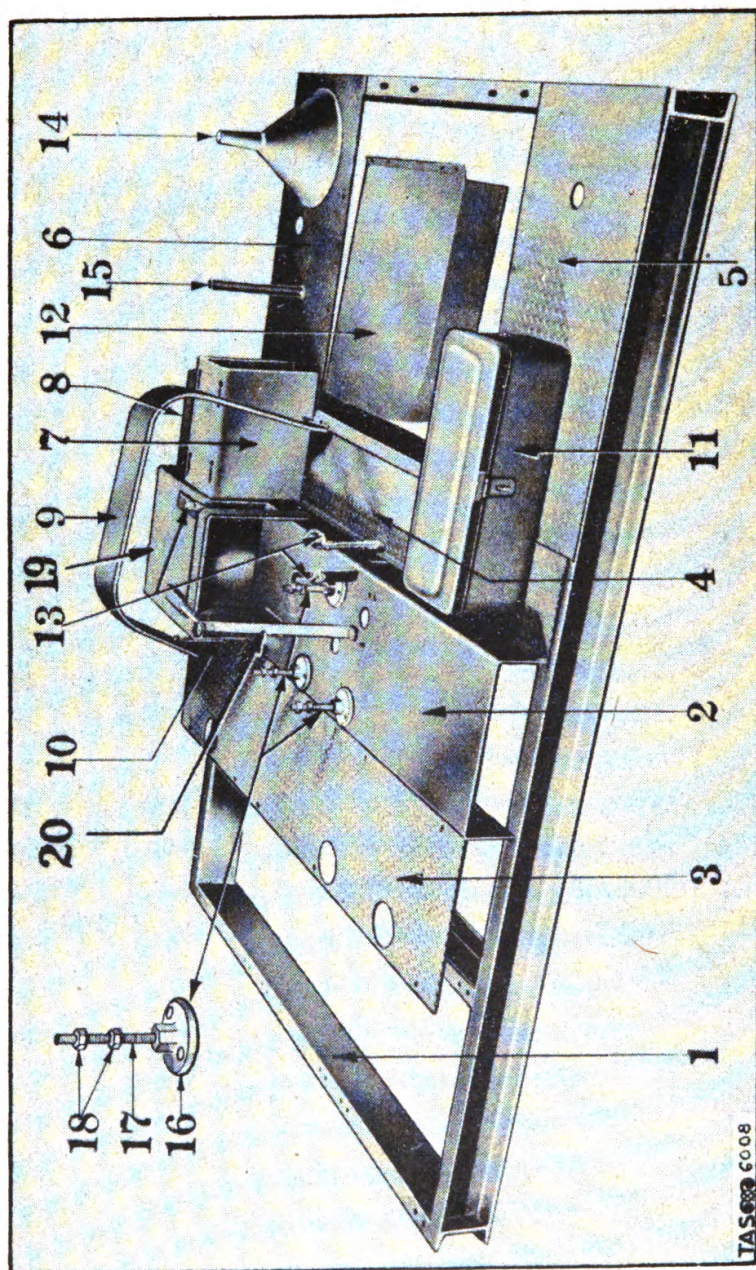

Fig. 8. Frame.
b. Frame. (1) It is mounted on a 5-foot, 6-inch x 6-foot frame in order that it can be carried on a trailer, barge, truck, or other vehicle, or placed on the ground or on pilings in the case of offshore installations.
(2) The components of the frame are shown in figure 8. The equipment frame platform serves as a base for the engine, the latter being bolted to it. On the transformer-ignition models the generator bracket supports the ac-dc engine generator, the latter being bolted to it. On magneto-ignition generators, the battery-charging dc engine generator is bolted directly to the engine. The pipe clamp nearest the equipment frame platform helps support the water piping; the other two clamps help support the special oil piping. To the equipment frame bracket are bolted the special oil and water pumps, and on the magneto-ignition models the burner magneto also is bolted to this bracket. As its name implies, the burner cover serves to protect the fuel oil burner when the unit is not in operation. On the assembled generator it is hinged to a bracket extending from the furnace at a point just above the burner. All other parts of the frame are self-explanatory.